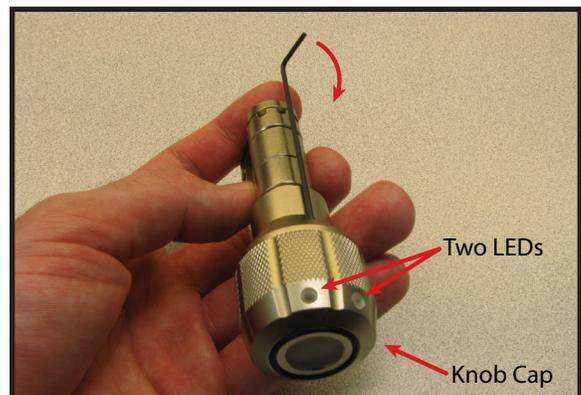

Figure 7: *Loosen Set Screw*
1.1) Use a FlashLock T6 Torx wrench (HDM1893) to loosen the set screw as shown in Figure 7. Rotate the wrench clockwise from the front of the lock.